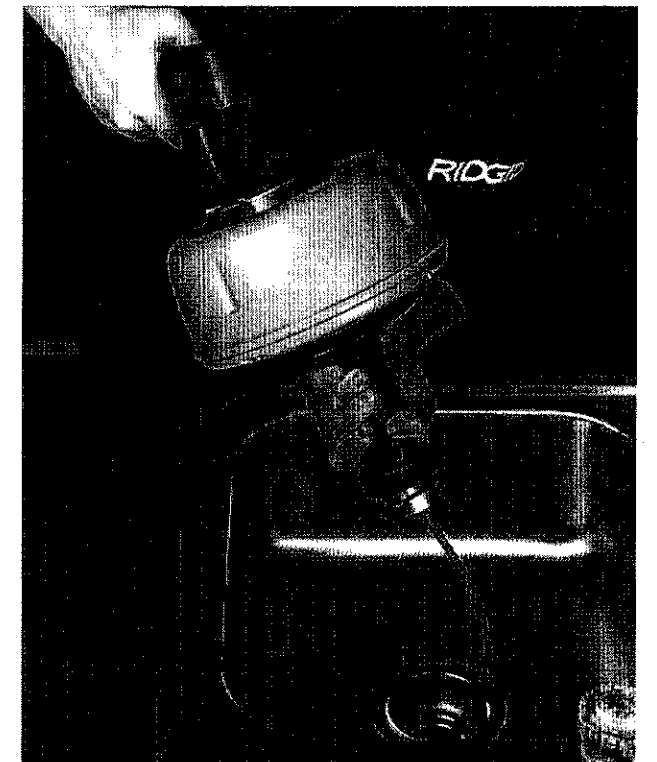
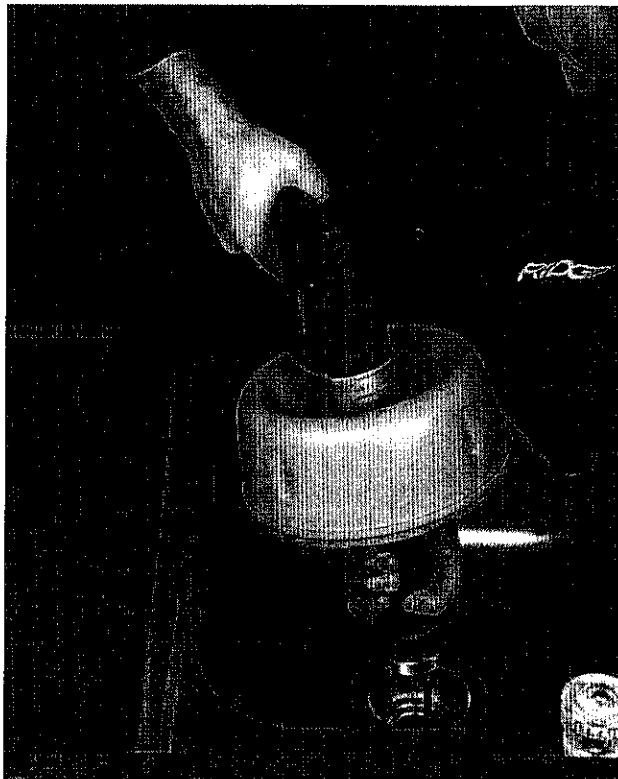

Figure 10. Pull handgrip rearward (see arrow) to engage clutch.
Figure 11. Push cable down drain line.
3. Pull Handgrip Rearward until it "snap locks" into the engaged position. (Fig. 10) Squeeze Variable Speed Trigger Switch gently and carefully push the cable down the line. (Fig. 11) Do not force, as Cable will tend to kink.